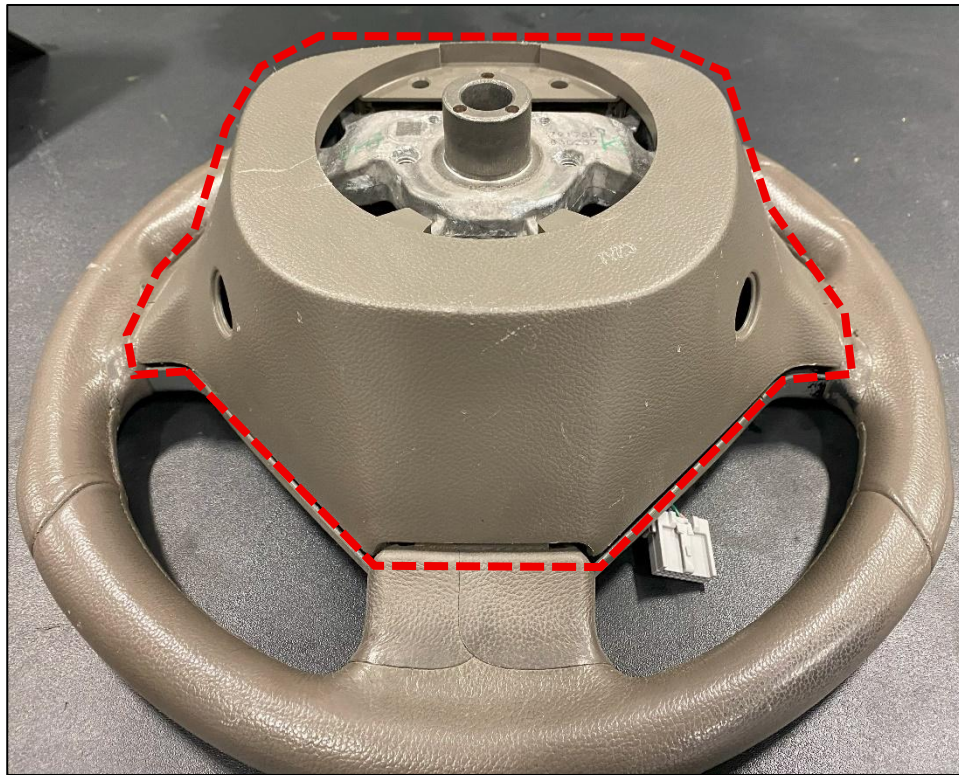

Figure 7
12. Pry the Plastic Trim off the back of the Steering Wheel. *Figure 7.*